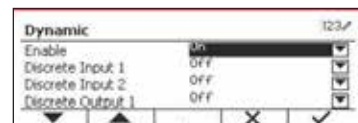

Figure 86
5. Select the list item and press the softkey corresponding to the  icon to change the setting as desired. (See Figure 86)